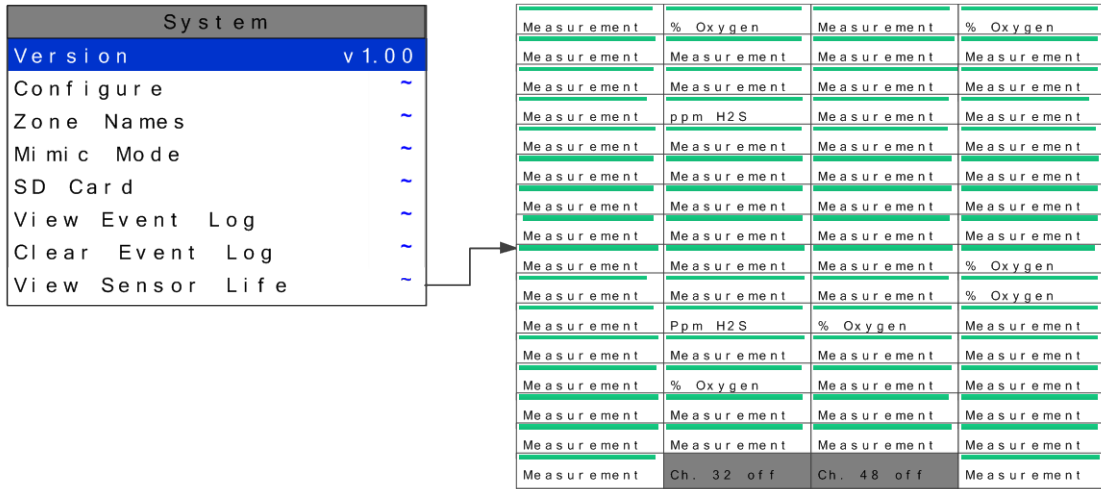

Figure 2-36
**Sensor Life** is available when at least one channel has **Sensor Life** activated in the **Marker menu** (see section 2.4.4.5). The **Sensor Info** screen displays each channel's sensor status as illustrated in Figure 2-36. Channels with **Sensor Life** disabled are indicate by **Ch. # Disabled** below the bar. **Cal Required** indicates no Calibration Marker value has been received by the HA 72.